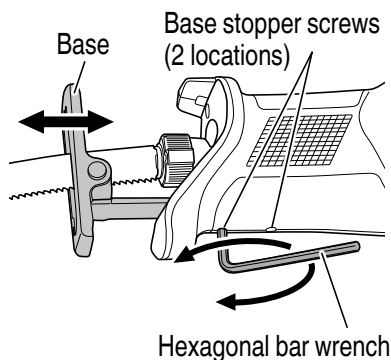

Fig. 13
4. Adjusting the base (Fig. 13)